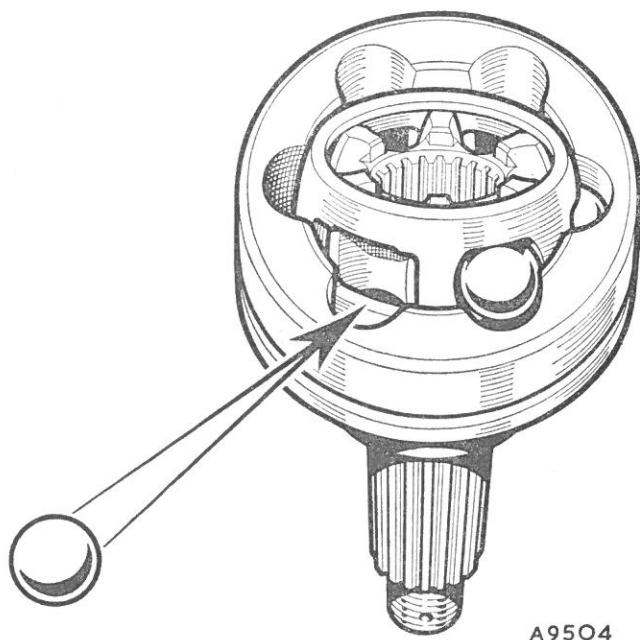
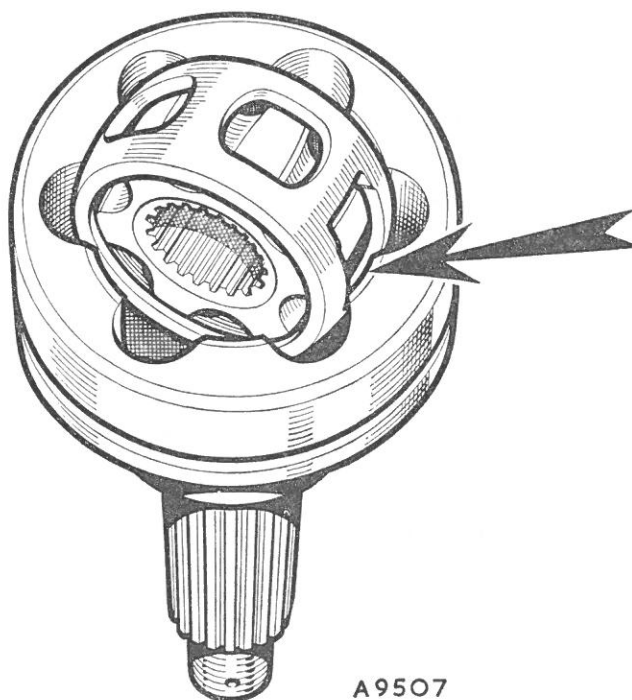

Fig. G.2
Fig. G.3
- (5) The joint should be dismantled only if there is reason to believe that it is still serviceable.
- (6) As the components are mated and have operated together, they must be kept in the same mating relationship. The relative positions of the inner and outer races and the cage should be marked with blue marker or a paint which will not wash off when the parts are cleaned.
- (7) With the shaft withdrawn the inner race can swivel freely. Tilt the inner race until one ball is released (Fig. G.2). Note that the cage swivels through half the angle of the inner race. If the joint is sticky with grease each ball may be eased out in turn with a pointed tool.
- (8) Swivel the cage into line with the axis of the joint and turn it until two opposite elongated windows coincide with two lands of the bell joint. One land will drop into a window, allowing the cage and race assembly to be lifted out (Fig. G.3).
- (18) Insert the cage and inner race assembly into the bell joint by fitting one of the elongated windows over one of the lands in the outer race (Fig. G.3). The three parts can now be turned or swivelled freely in relation to each other.
- (19) Locate the cage and inner race in their original position relative to the bell joint (as marked before dismantling).
- (20) Keeping this relation between the parts, tilt the cage until one ball can be inserted in a window. Repeat this operation with the remaining balls (Fig. G.2).
- (21) Ensure that the inner race articulates freely with the cage in the bell joint, but care must be taken not to release the balls.
- (22) The joint should be filled with the remainder of the pack of Duckham's M-B grease before inserting the shaft.
- (23) Fit a new rubber boot if necessary, smearing the inside with Duckham's M-B grease. Take care when easing the boot over the circlip on the shaft.